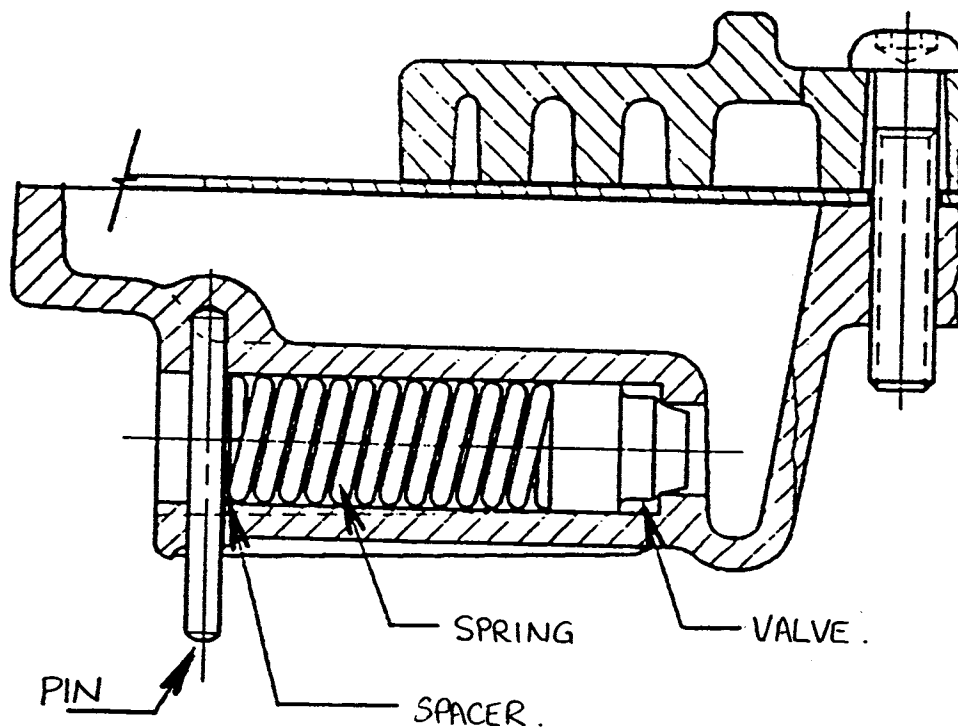

FIGURE 2: LINE RELIEF VALVE ASSEMBLY.
- d) Install valve, new spring 0585-156143 (non-ground ends), 0.3mm thick spacer and retainer pin. Refer figure 2.